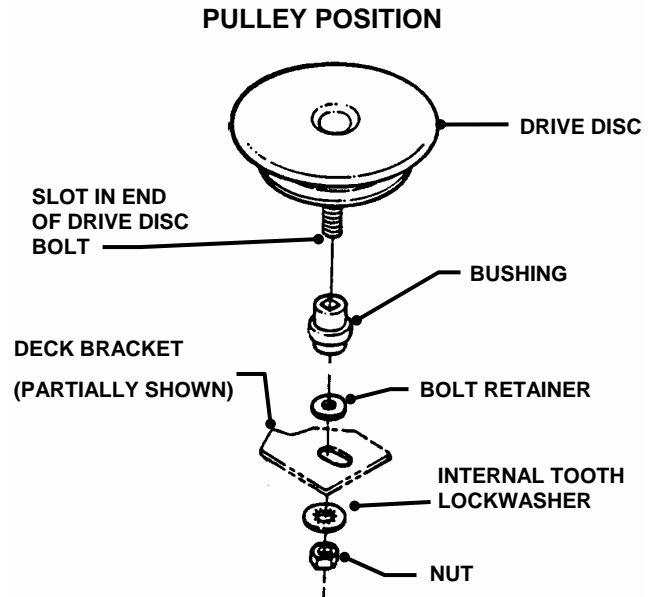

FIGURE 4.17
5. Hold the slotted end of the drive disc bolt with a screwdriver and remove the nut and internal tooth lock washer. See Figure 4.17.